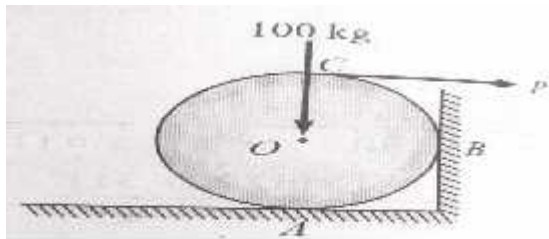

fig:9
9. Fig:9 shows a cylinder of mass 100 Kg resting on a floor and against a wall. If the coefficient of friction between the surface of contacts is 0.25. Find whether the cylinder will slip with the tangential horizontal force of 180 N.